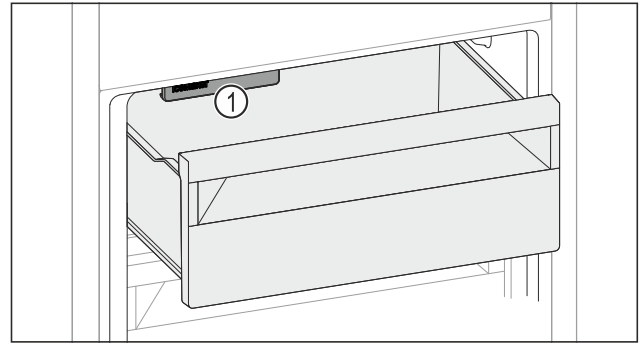

Fig. 130
- ▶ Pay attention to the IceMaker Fig. 130 (1).